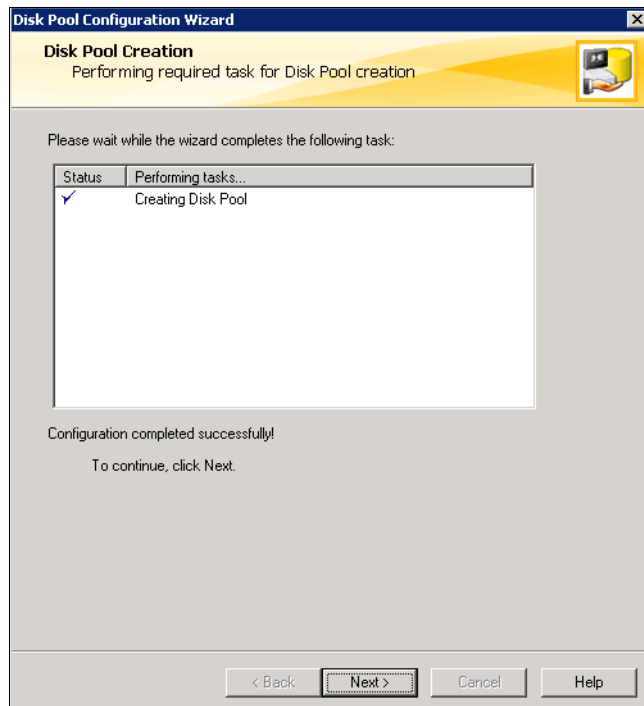

Figure 9-29 Disk pool creation complete
6. Complete the disk pool creation by clicking **Next** (Figure 9-29).